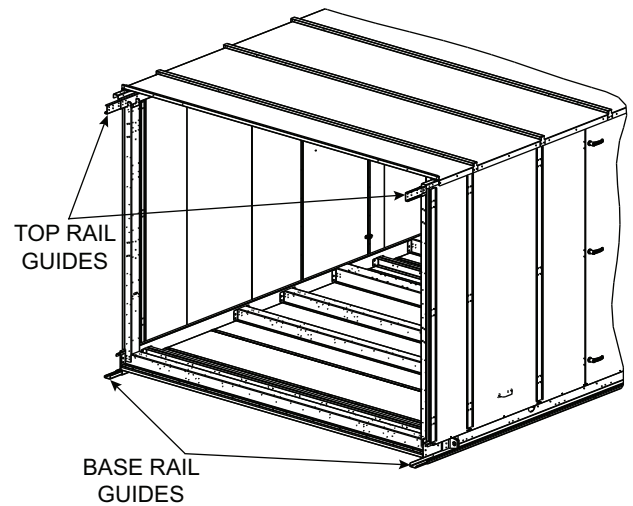

Fig. 49 — Base and Top Rail Guide Locations
4. Insert base rail guides into the base rails of the main unit section. Do not attach with screws yet. See Fig. 49 and 50.
5. Insert top rail guides into top rails of the main unit section. Do not attach with screws yet. See Fig. 49 and 51.